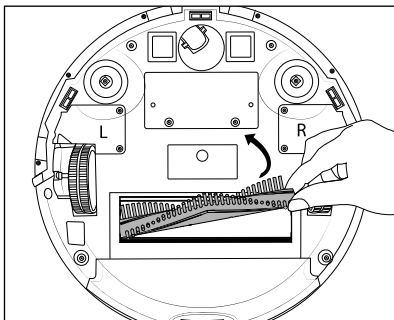

Fig. 15
- ◆ Grasp the rotary brush **18** on the right-hand side, and remove it from the appliance (see Fig. 15). Remove hair and dirt with the cleaning brush **10**.